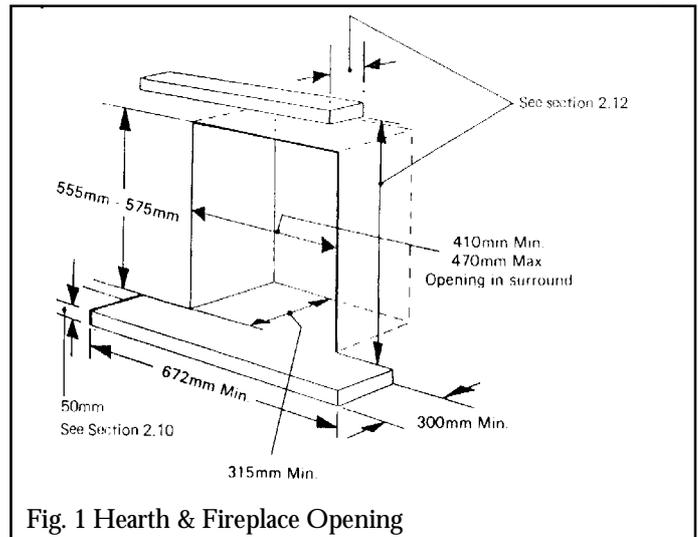

Fig. 1 Hearth & Fireplace Opening
2.2.1 To a fireplace complete with surround and hearth as shown in figure 1 and complying with BS1251 after removal of the fireback and sufficient material behind the fireback for a debris catchment space. The required fireplace, hearth, debris catchment area and clearance dimensions are shown in figure 1.